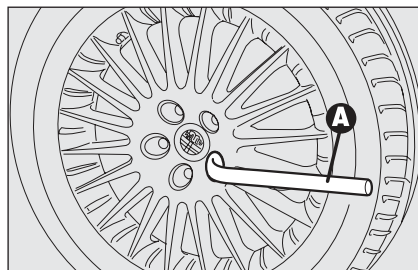

fig. 5
- ☐ Loosen the bolts of the wheel to be replaced by about one turn with the wrench provided **A-fig. 5**; if the car is fitted with alloy rims, shake the car to facilitate removing this rim from the wheel hub;